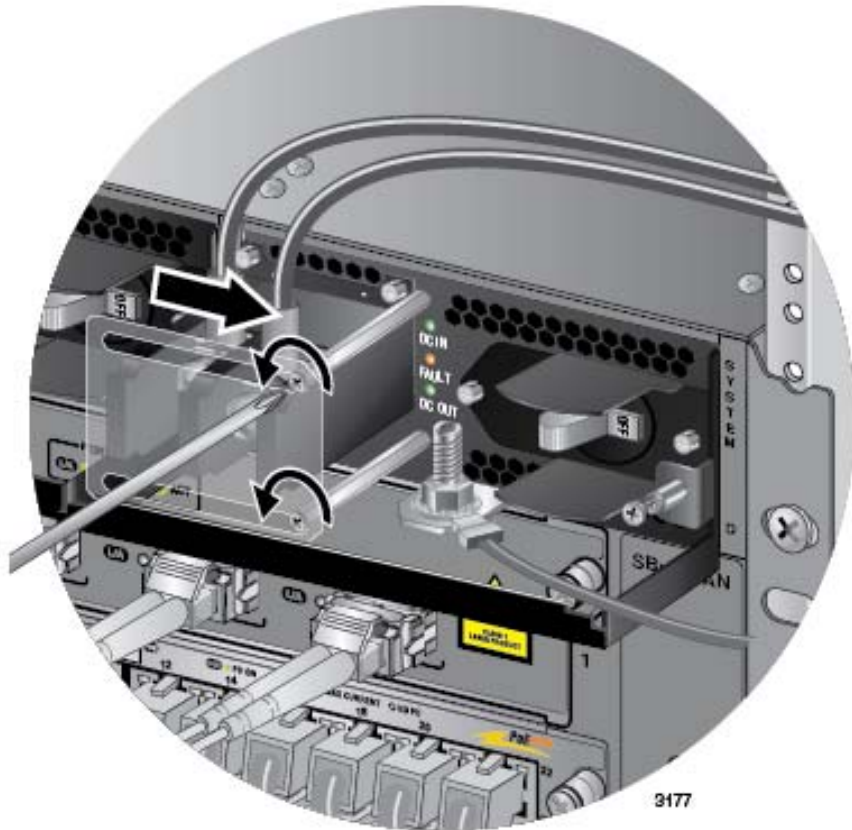

Figure 151. Opening the Plastic Window on the Terminal Block
4. Use a #1 screwdriver to loosen the two screws that secure the plastic cover over the terminal block and slide the cover to the right. You may need to slightly lift the locking handle to access the bottom screw. Refer to Figure 151 on page 240.